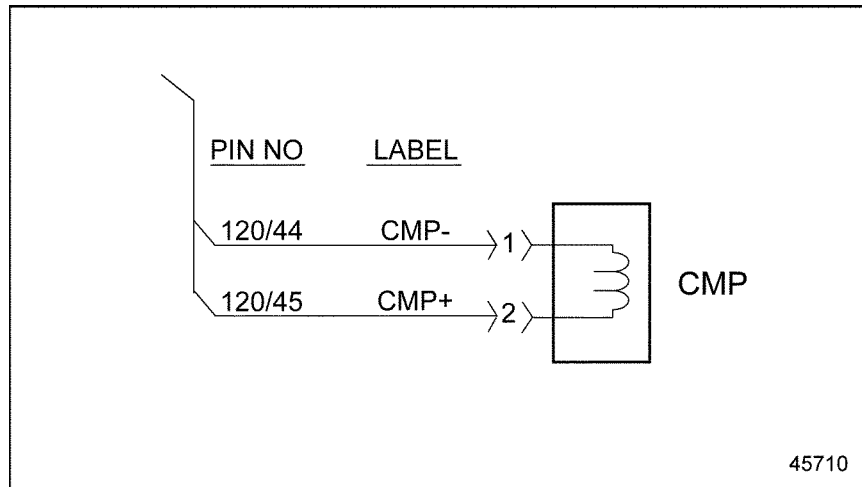

Figure 34-1 MCM — Camshaft Position Sensor Schematic
2. Measure the resistance across pins 1 and 2 of the CMP Sensor. See Figure 34-1.